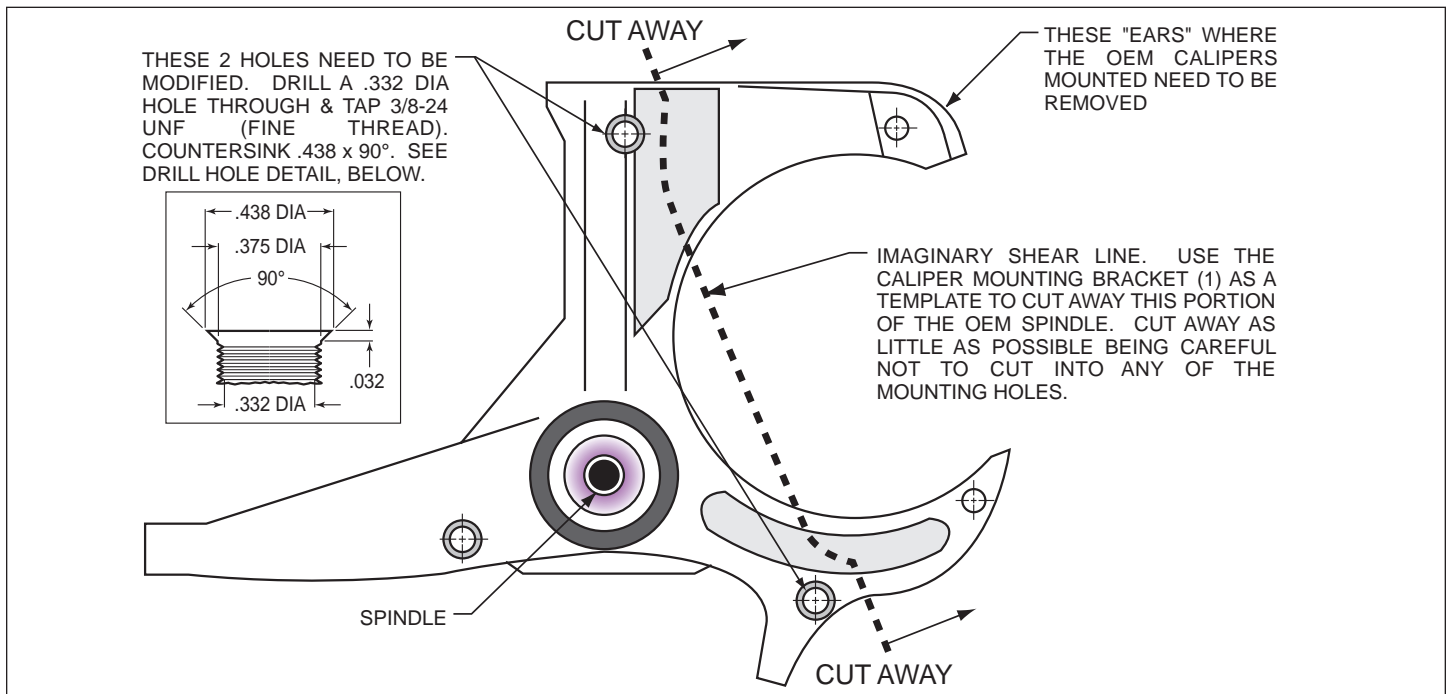
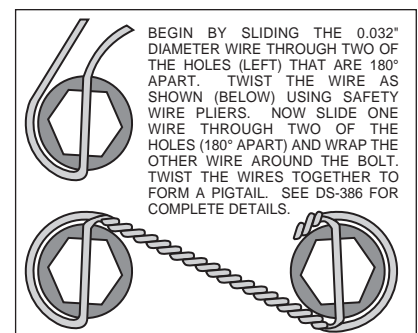

Figure 1. Steering Arm / Spindle Modifications
Figure 4. Safety Wire Diagram
These modifications should be performed by a qualified machinist. Refer to Figure 1 on the following page as necessary (numbers in parenthesis refer to the parts list on page three). Only one view of the steering arm/spindle is shown, but the modifications need to be performed on both steering arm/spindles.
The two stock holes that will be used to mount the caliper mounting bracket (1) need to be modified (figure 1). Drill a .332 diameter hole through both holes, then tap 3/8-24 UNF (fine thread). Countersink the holes to .438 x 90°. The “ears” that protrude to form a “C” shape need to be removed to facilitate the installation of the Wilwood caliper (22). Using the caliper mounting bracket (16) as a template, mark two cut marks on the steering arm. Remove as little as necessary from the “C” shape, being careful not to cut away any of the mounting holes required to bolt on the caliper mounting bracket (1).
- Pack the large inner bearing cone (5) with high temperature disc brake bearing grease (available from your local auto parts store) and install into the backside of the hub (4).
- Install the grease seal (6) by pressing into the backside of the hub (4).
- Pack the small outer bearing cone (12) with high temperature disc brake bearing grease and install into front side of the hub (4). Slide the hub assembly (4, 5, 6 and 12) onto the spindle. Secure using spindle washer (13), stock adjusting nut, and nut locking device. Adjust wheel bearing pre-load per Original Equipment Manufacturer (OEM) specifications.
- Install the O-ring (14) and the dust cap (15) into the hub (4). **NOTE:** O-ring (14) friction will not allow cap (15) to unscrew on its own.
- With the larger I.D. side of the rotor (7) facing away from the hat (8), bolt rotor (7) to hat (8) through the backside of the rotor using washers (9) and bolts (10). Using an alternating sequence, apply red *Loctite*® 271 to the threads and torque bolts to 155 **in-lb**. For an added measure of security, the bolts may be safety wired using standard 0.032 inch diameter stainless steel safety wire as shown in Figure 4.. Please refer to Wilwood's data sheet DS-386 (available at www.wilwood.com/Pdf/DataSheets/ds386.pdf) for complete safety wire installation instructions.
- Slide the rotor/hat assembly over the studs (3) in the hub (4) taking care to align the small countersunk holes in the hat (8) with the small threaded holes in the hub (4). Install three flat head socket head screws (11) through the small holes in the hat (8) and torque to 85 **in-lb**. Check to be sure the hat seats squarely against the hub face.
- NOTE:** Please reference the caution statement at the beginning of the assembly instructions. The caliper mount brackets (16) should be installed first with clean, dry threads on the mounting bolts (17). Place sleeve (19) into the holes on the radial mount caliper bracket (16). Install the radial mount caliper bracket (16) on the backside on the flat caliper bracket (1) by sliding bolt (17) through washer (18) and through the bracket holes. Place spacer (20) and shim washer (21) between the two brackets and screw bolt (17) into insert nut on the flat caliper bracket (1). Finger tighten bolt (17). Use one thin shim (21) between the two brackets (1 and 16) during initial trial fitting.
- NOTE:** This kit contains distinct right and left hand calipers that must be mounted in a specific direction, as described below. Lubricate the caliper mounting studs (23) with lightweight oil. Initially place two .030" thick shims (25) and spacer (24) on each stud as shown in Figure 1. Mount the caliper (22) onto the bracket (16) using lock nuts (27) and washers (26), Figure 1. Ensure that the caliper is mounted so that the largest pistons are at the rotor exit end of the caliper, in relation to the direction of rotor rotation. Temporarily tighten the lock nuts.
- View the rotor (7) through the top opening of the caliper (22). The rotor (7) should be aligned in the center of the caliper (22). If not, adjust the radial mount caliper bracket (16) by using shims (21 and/or 29) placed between the two brackets (1 and 16). Add as many shim washers (21 and/or 29) as necessary to achieve the correct alignment. Always use the same amount of shims on both the top and bottom radial mount caliper mounting bolts (17). Finger tighten and recheck alignment, adjust as necessary. Apply red *Loctite*® 271 to bolt threads (17) and torque to 47 **ft-lb**.